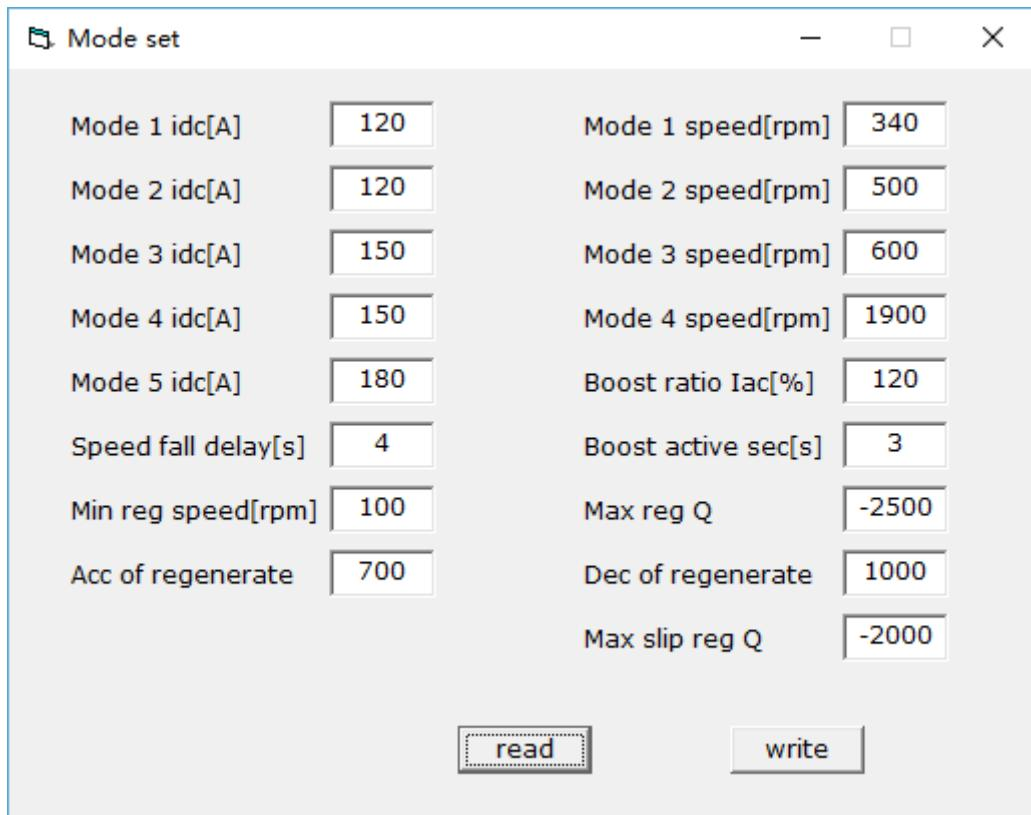

Fig 8. Mask of ModeSet
In Curve 2, horizontal axis stands for motor speed, there are 14 speed points in step, and the speed step(150) comes from "Mode 4 speed" in Fig 8 in following equation: